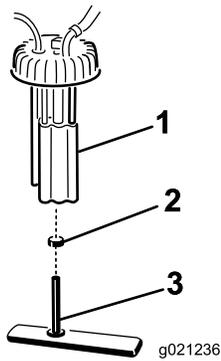

Figure 52
2. Unplug the wiring-harness connectors from the fuel pump (Figure 52).
3. Remove the fuel pump assembly and the fuel filter from the tank (Figure 52).
4. Remove the clamp that secures the fuel-filter hose to the fuel-pump fitting. Remove the hose from the fitting (Figure 52).